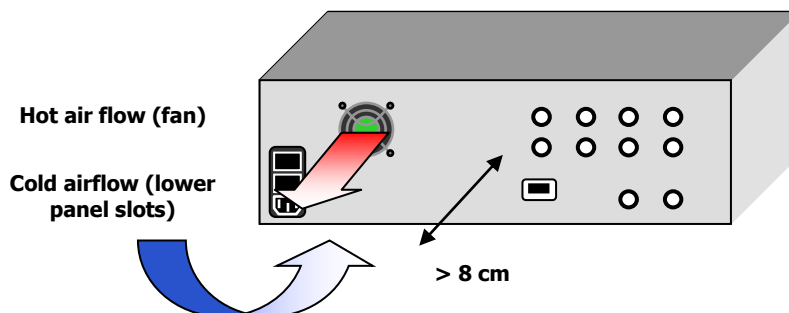

FIG. 4 Airflow and minimum required space behind the device
- Do not obstruct the grid on the rear panel (FIG. 4).